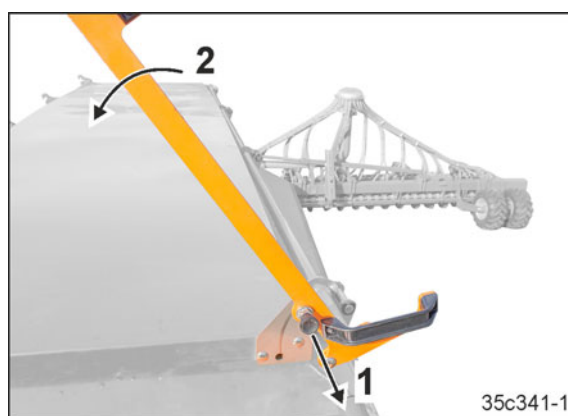

Fig. 227
3. Pull out the spring-loaded pin (Fig. 227/1) and swivel the lever (Fig. 227/2) downwards.